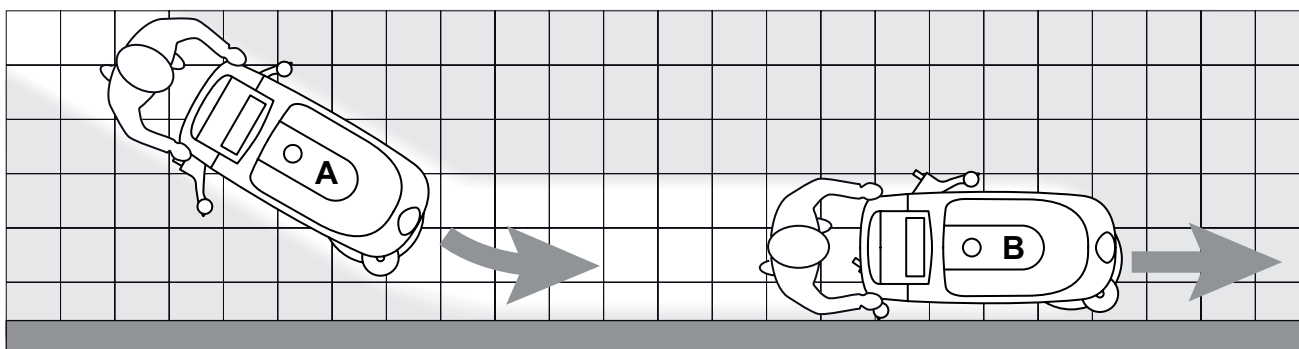

Figure 4
*For correct scrubbing/drying of floors at the sides of the walls, Advance suggests to go near the walls with the right side of the machine as shown in figure 4.*